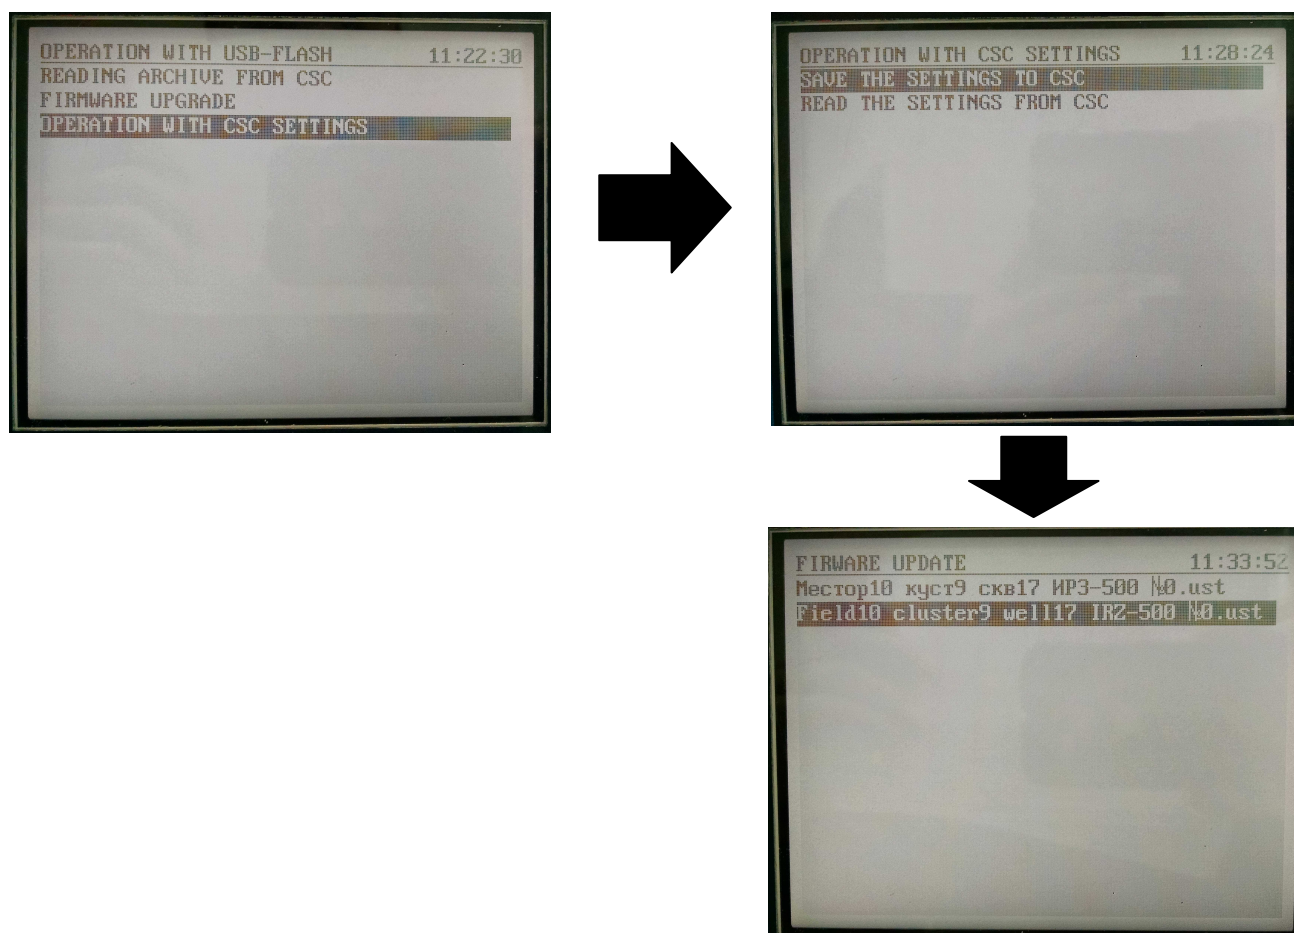

Figure 8.
4.1.8 To record the preset parameters saved earlier on the memory stick to the controller it is necessary to go to the menu «OPERATION WITH USB-FLASH» and to select «OPERATION WITH CSC SETTINGS», then in the appeared menu to select the option «SAVE THE SETTINGS TO CSC». After that the display will show the list of the files contained in the directory IRZ_SET on the memory stick (see Figure 8).